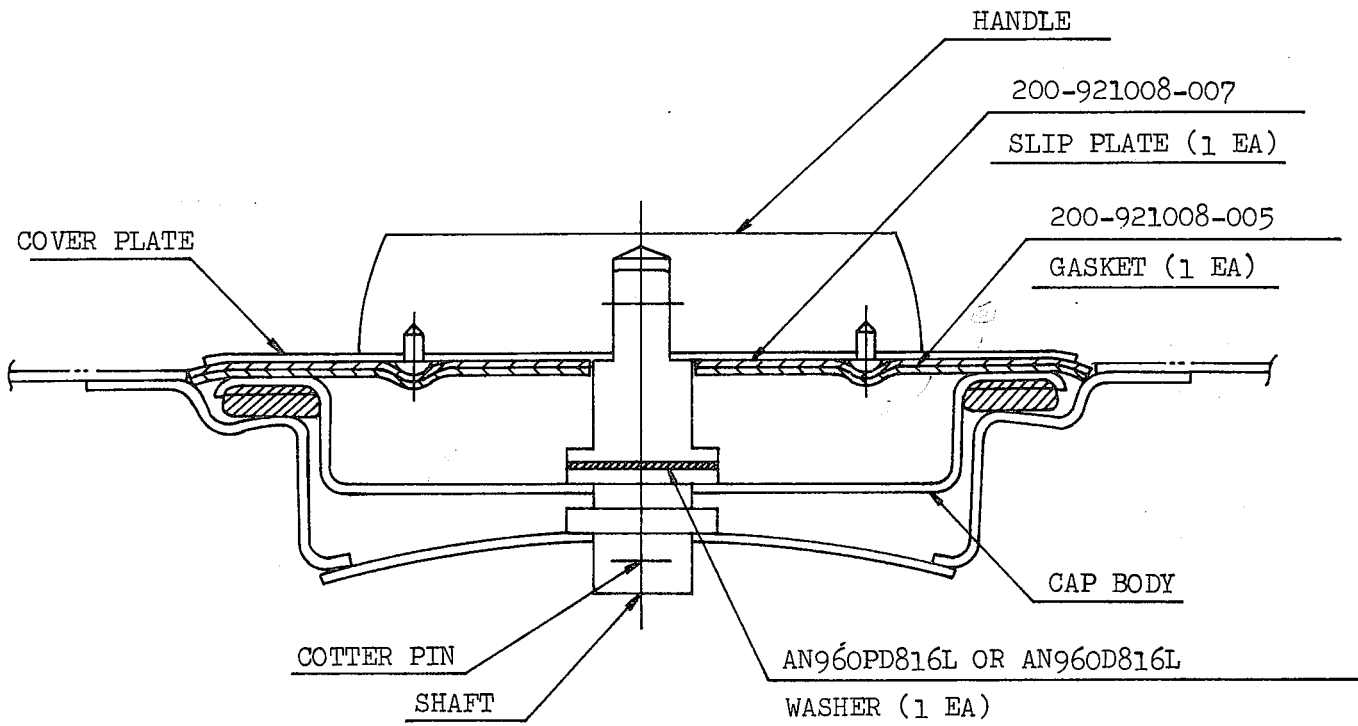

FIGURE 1. MODIFICATION OF FUEL TANK FILLER CAP
- (1) Remove cotter pin from fuel tank filler cap shaft and separate cap body and cover plate.
- (2) Clean inside surface of cap plate with M.E.K. and bond slip plate P/N 200-921008-007 and gasket P/N 200-921008-005 with adhesive EC-847 as illustrated in the attached figure 1.
- (3) Assemble cover plate and cap body. At this time, add one washer AN960PD816L or AN960D816L as shown in the figure 1.